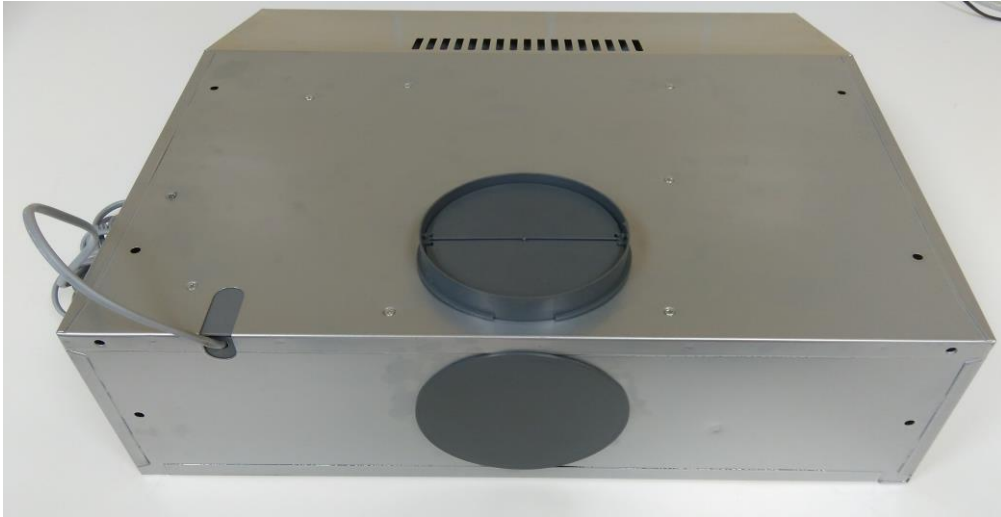

Fig. 5
1) Outlet from the top - on the upper opening of the hood, we install a collar Ø 120 mm with a non-return valve (Fig. 5)
- If the cap will be used as an exhaust cap (Fig. 4a), install a non-return valve (Fig. 5) into the outlet of the turbine and install a steam return pipe (Fig. 21) on it.